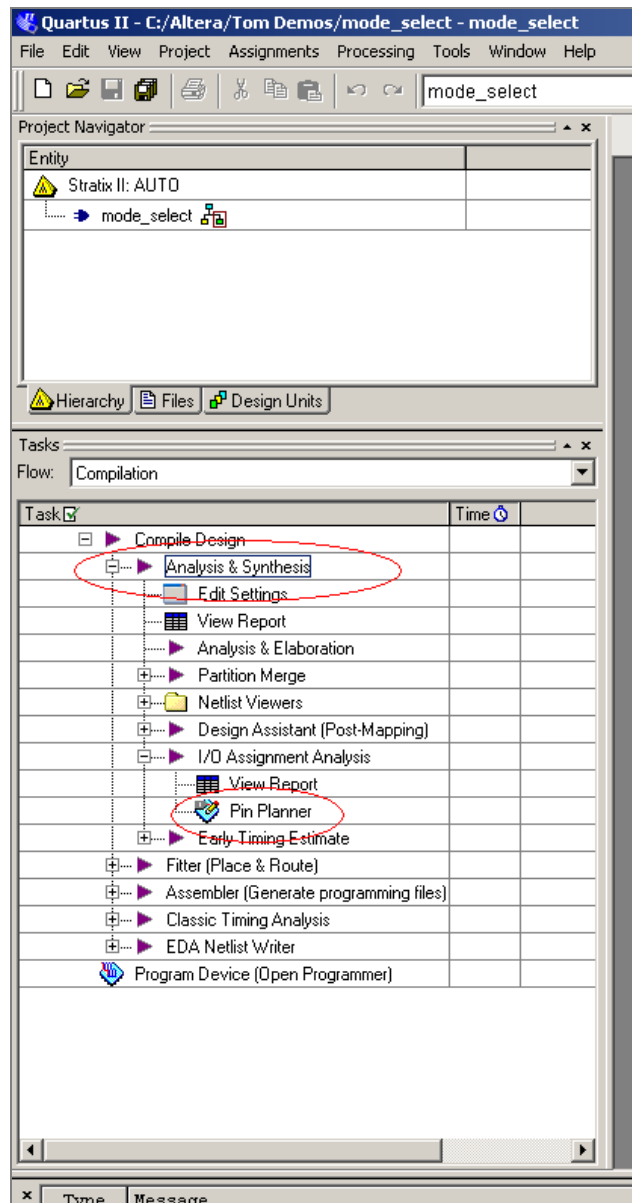

Figure 5: Double Click on "Analysis and Synthesis" and then Double click on "Pin Planner"
1. In the “Task” window, double click on “Analysis and Synthesis” as shown in Figure 5 below.
2. When the compilation is finished, double click on “Pin Planner” which is also located in the “Task” window as shown in Figure 5.